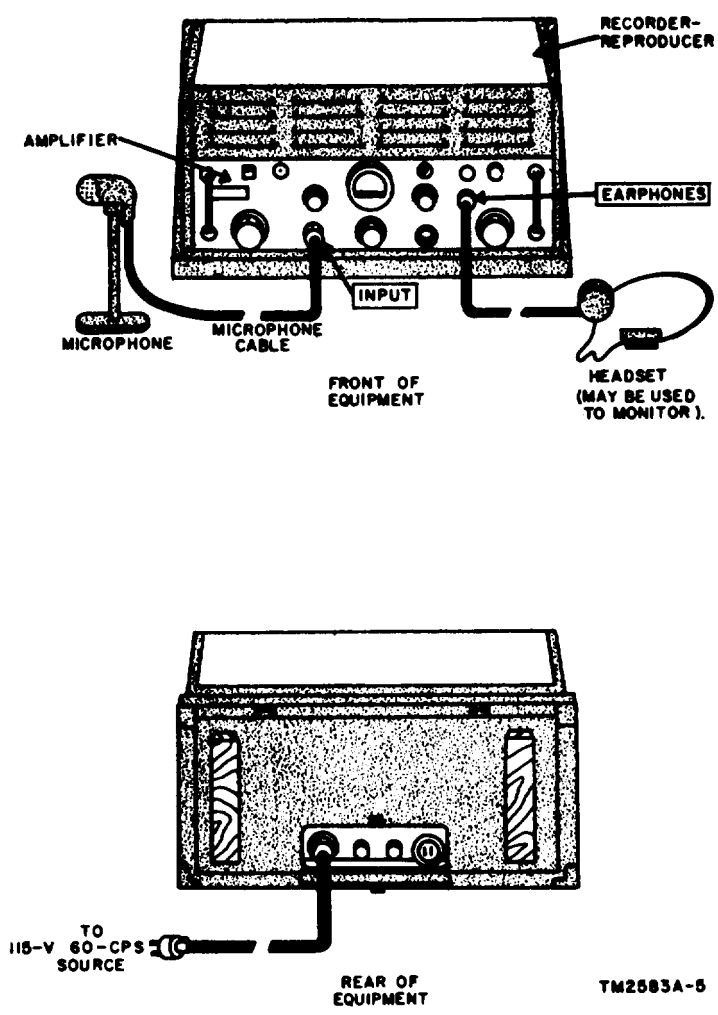

Figure 8. Equipment setup for microphone recording.
- (4) Turn the INPUT SELECTOR SWITCH of the amplifier to the MIC. position.
- (5) Turn the METER SELECTOR control of the amplifier to the RECORD LEVEL position.
- (6) Connect the microphone cable to the INPUT connector (fig. 8) of the amplifier by lining up the key on the microphone cable connector with the keyway on the INPUT connector, and pushing the connector.
- (7) Open the access door at the back of the recorder-reproducer carrying case
14. Microphone Recording (fig. 8)